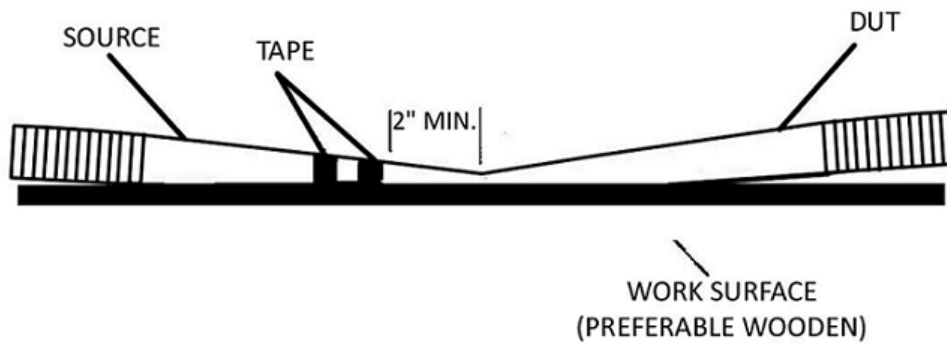

Figure 13. Probe Orientation for Insertion Loss Test
3. Physically align the probes as shown in Figures 13 and 14. The identification label of the DUT should face upward. This alignment illuminates one of the sense loops of the DUT with a magnetic field.